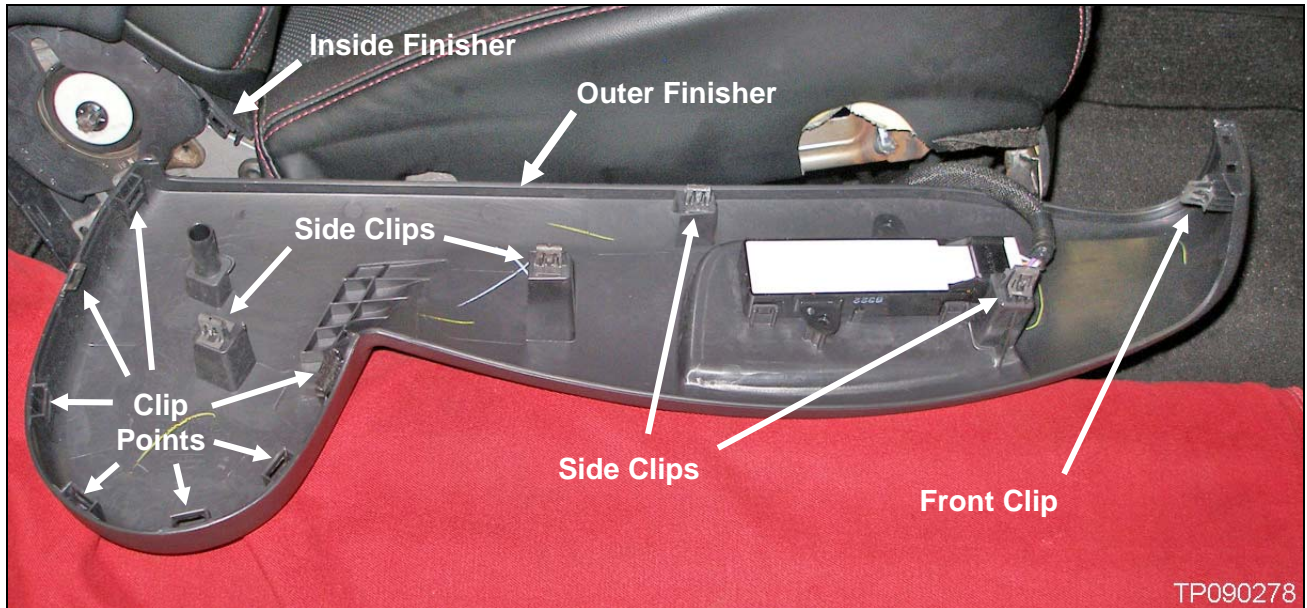

Figure 3
- b. Work your way around the back of the finisher, continuing to pull while pushing on each clip point. See Figure 2 and Figure 3 (next page) for clip point locations.
- c. With the rear of the finisher unclipped, carefully pull more on the finisher to unfasten the four side clips. See Figure 3 for the four side clip locations.
NOTE: The front clip is not unfastened at this time, even though Figure 3 shows it is.